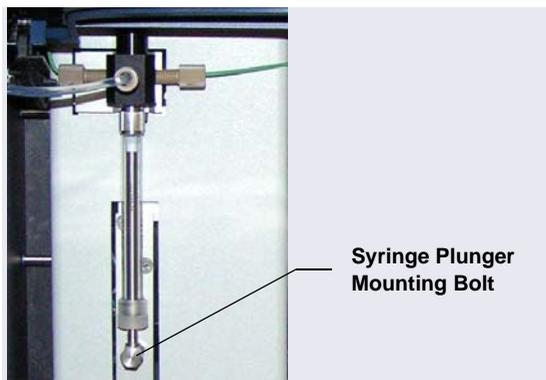

Figure 5-12. *Syringe Plunger Mounting Bolt*
4. Use the open-end wrench to loosen the syringe plunger mounting bolt (see Figure 5-12) by turning it counterclockwise, and then use your fingers to unscrew and remove the bolt. Save the bolt.